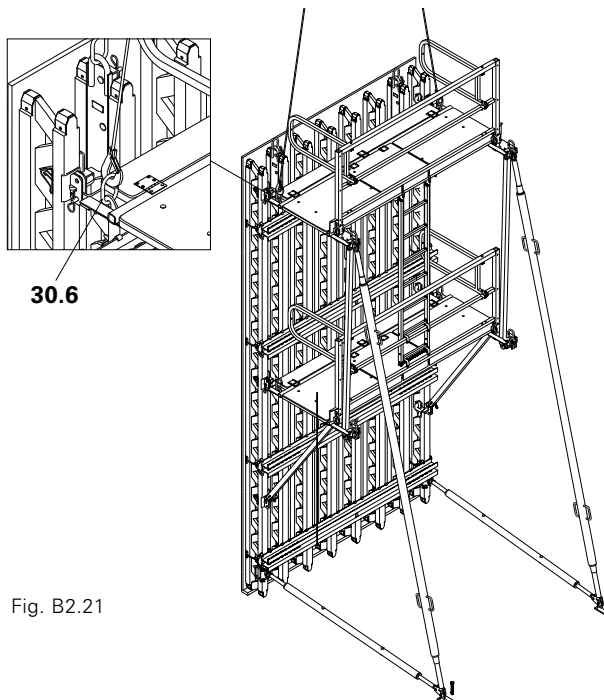

Fig. B2.21
2. Secure formwork unit, e.g. with Anchor Bolt PERI 14/20 x 130 or equal. (Fig. B2.21)